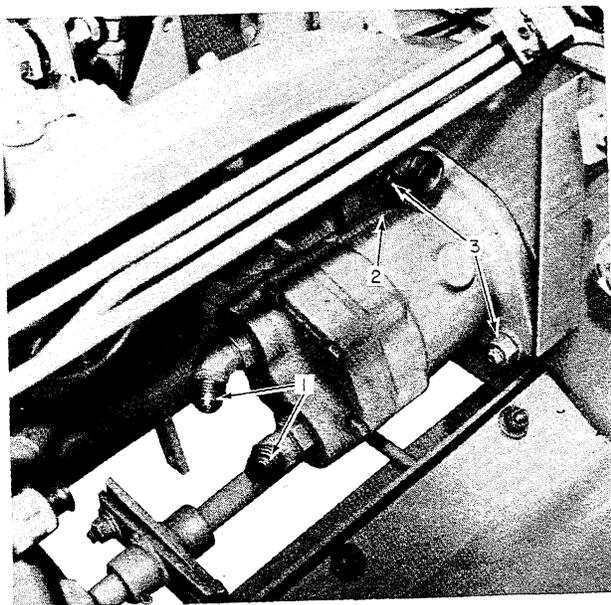
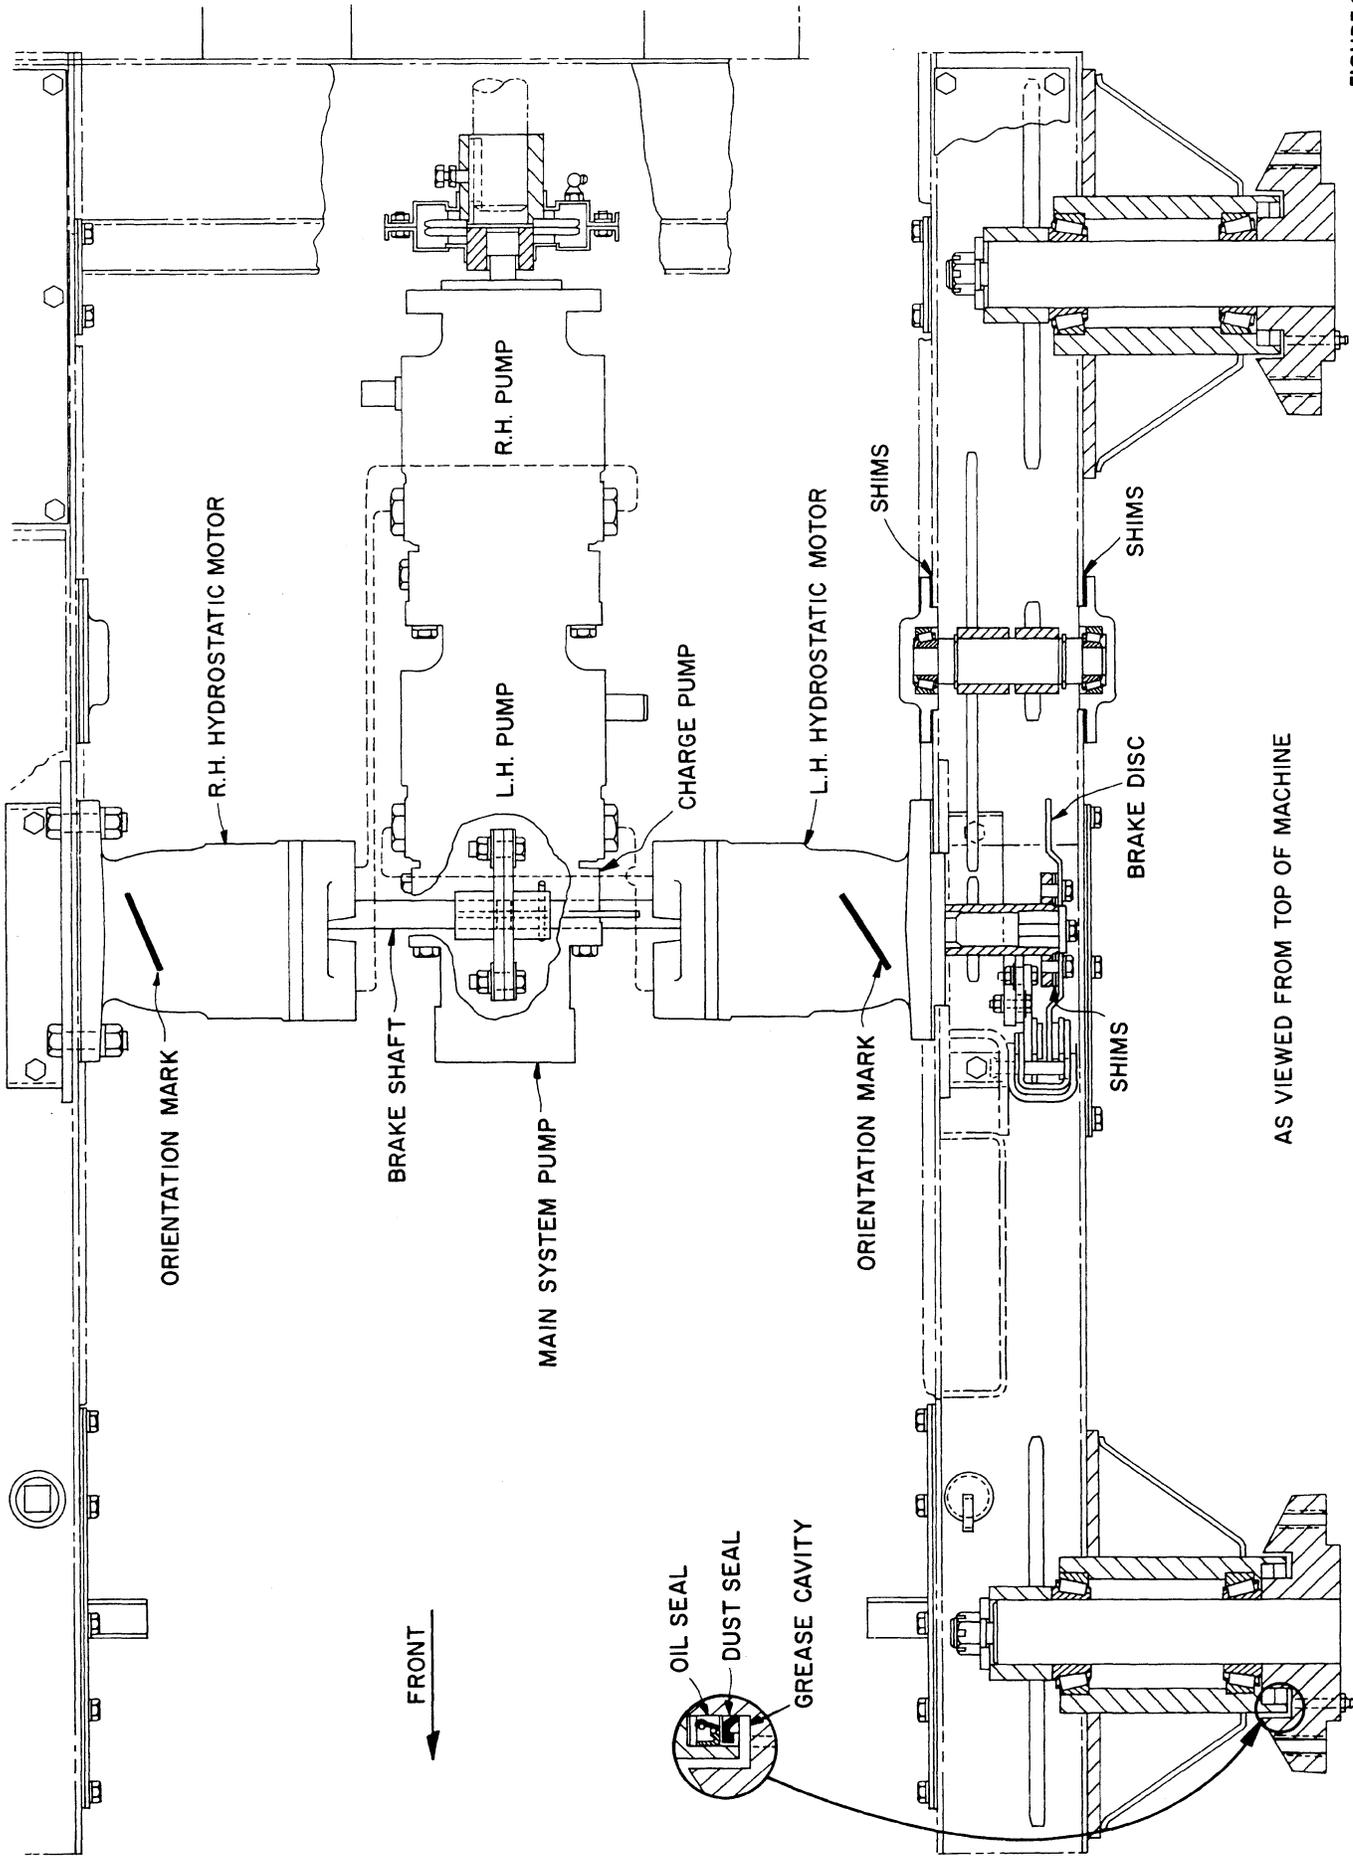

FIGURE 19
FIGURE 20
NOTE: The hydrostatic motor can be turned freely if the two hydraulic hoses (1), Figure 19, are disconnected prior to turning the final drive. Some oil will be pumped out of the motor when it is rotated. Therefore, rotate the final drive slowly.
9. Orientation marks are cast into the motor housings as shown in Figure 20. The left motor housing orientation mark is shown properly positioned at (2), Figure 19. These orientation marks indicate the angle of the fixed cam plate inside the motor. The motors should be marked and reinstalled in the positions shown in Figure 20.